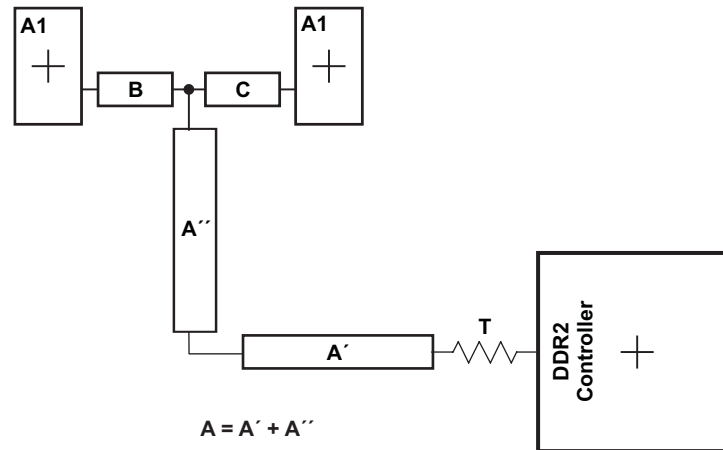

Figure 9-52. CK and ADDR_CTRL Routing and Topology
Figure 9-52 shows the topology of the routing for the CK and ADDR_CTRL net classes. The route is a balanced T as it is intended that the length of segments B and C be equal. In addition, the length of A ($A'+A''$) should be maximized.
(1) The length of segment $A = A' + A''$ as shown in Figure 9-52.
(2) Series terminator, if used, should be located closest to the processor.
(3) Center-to-center spacing is allowed to fall to minimum (w) for up to 500 mils of routed length to accommodate BGA escape and routing congestion.
(4) CACLM is the longest Manhattan distance of the CK and ADDR_CTRL net classes.